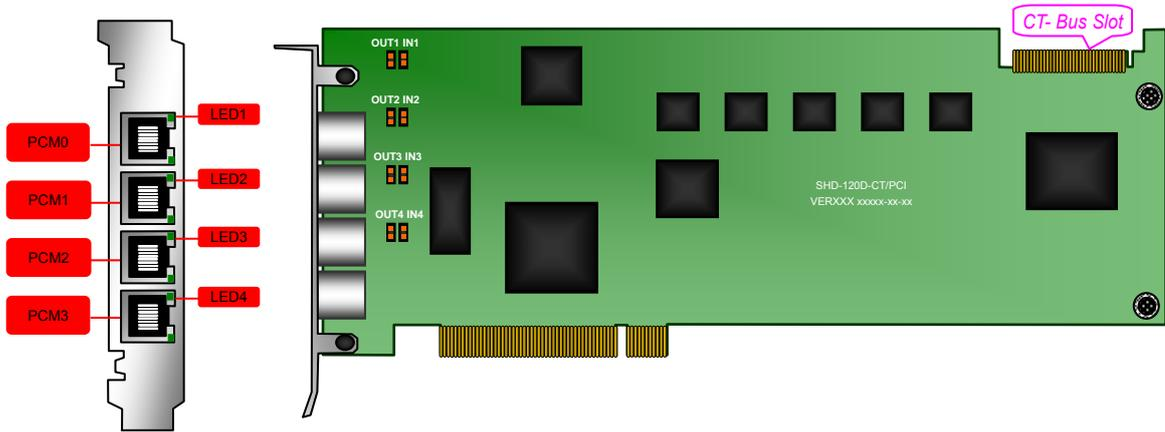
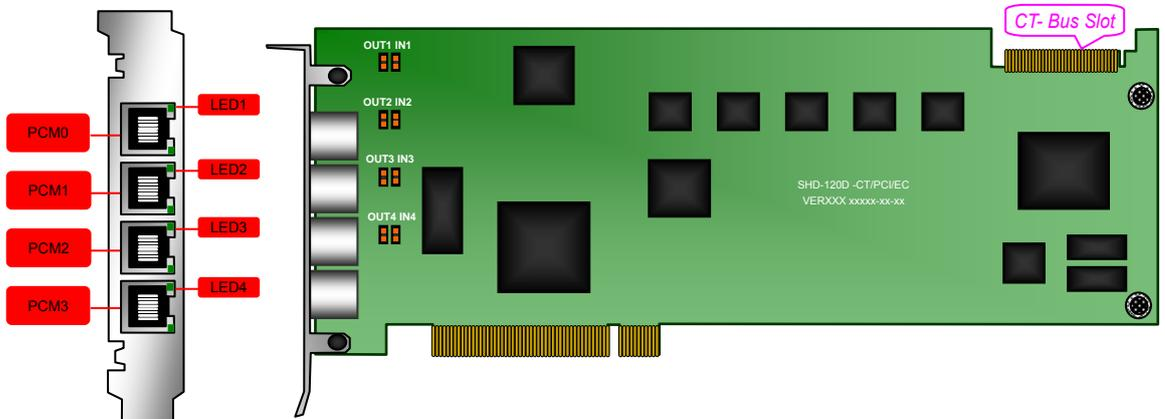

Figure 2-1 Left and Front Side Views
Figure 2-2 Left and Front Side Views
**Notes:** In Figure 2-1 and Figure 2-2, PCM0~PCM3 respectively indicate the 4 trunk interfaces while LED1~LED4 represent their synchronization indicators; INm and OUTm refer to the grounding jumpers respectively at the receiving and transmitting ends for PCM(m-1), m=1~4.